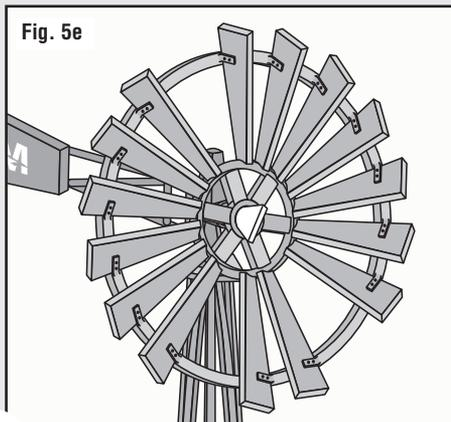

Fig. 5e
- Snip off tip of Weather Vane post and crimp with needle nose pliers to hold Wind Wheels in place (Fig. 5e).